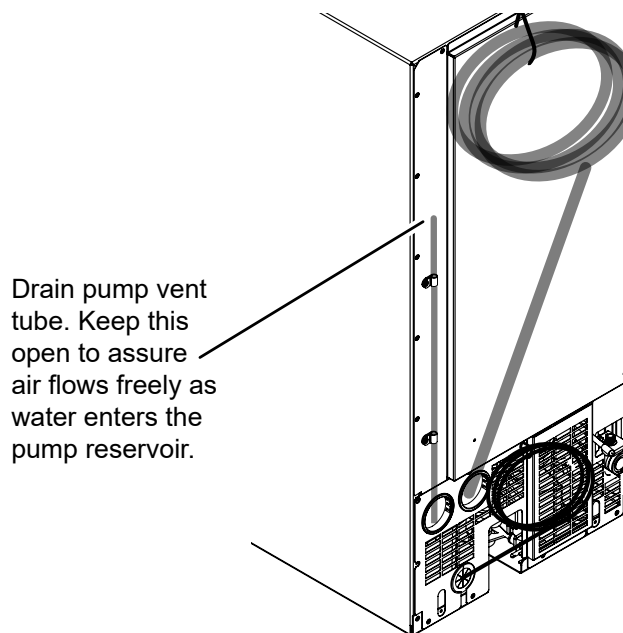

Figure 17: Location of vent tube.
- c. The vent tube on the back of the unit is open (Figure 17).